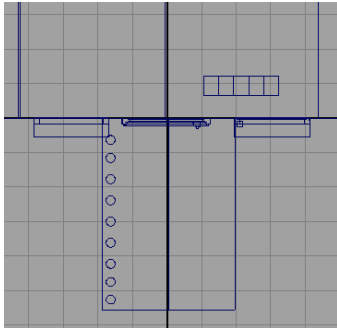

*Figure 3-137 The pillar support for the door shade*
6. Select the two NURBS circles and then choose **Surfaces > Loft** from the menubar; the selected NURBS circles are lofted creating the pillar for the door shade, as shown in Figure 3-137.